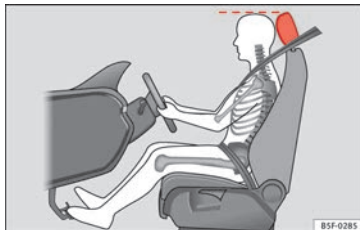

Fig. 85 Correct head restraint position for the driver.
- Adjust the head restraint so that its upper edge is at the same level as the top of your head, or as close as possible to the same level as the top of your head » **Fig. 85.**